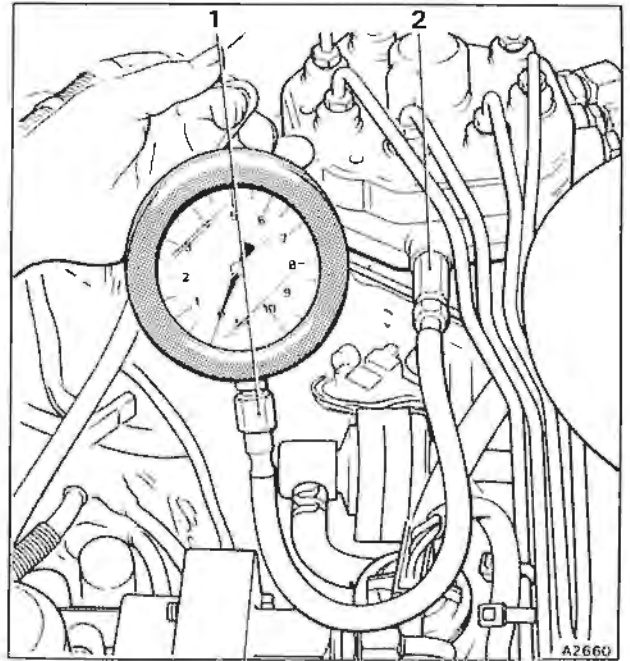

Fig. B4-47 Pressure tester equipment - testing differential (lower chamber) pressure
- Differential fuel pressure (see fig. B4-47).